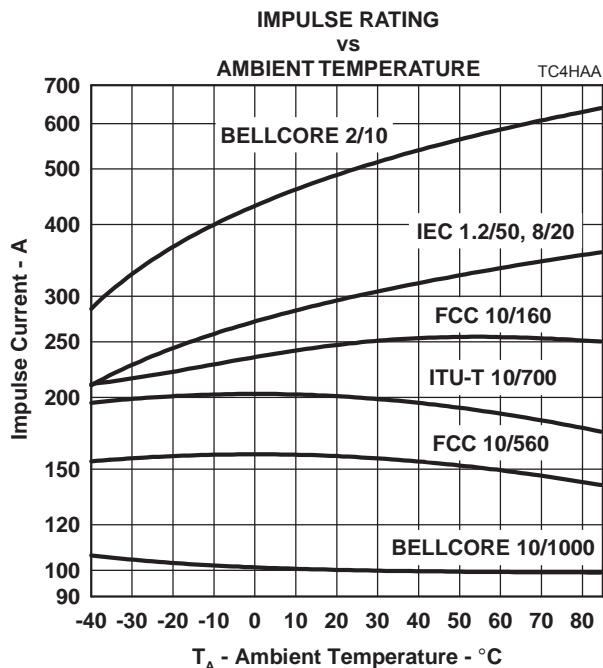

Figure 10.
- See Figure 10 for impulse current ratings at other temperatures. Above 85  $^\circ\text{C}$ , derate linearly to zero at 150  $^\circ\text{C}$  lead temperature.
If the impulse generator current exceeds the protector's current rating, then a series resistance can be used to reduce the current to the protector's rated value to prevent possible failure. The required value of series resistance for a given waveform is given by the following calculations. First, the minimum total circuit impedance is found by dividing the impulse generator's peak voltage by the protector's rated current. The impulse generator's fictitious impedance (generator's peak voltage divided by peak short circuit current) is then subtracted from the minimum total circuit impedance to give the required value of series resistance. In some cases, the equipment will require verification over a temperature range. By using the rated waveform values from Figure 10, the appropriate series resistor value can be calculated for ambient temperatures in the range of -40 °C to 85 °C.